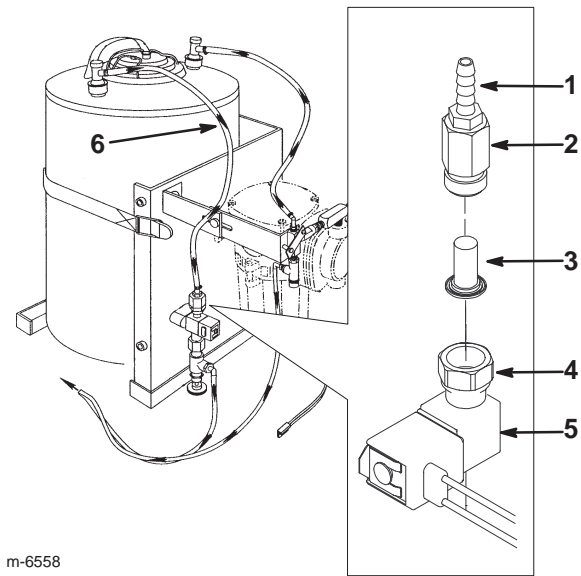

Figure 21
Important Dried foam agent and debris can clog the strainer (Fig. 21), causing slow or no foam production. This can be mistaken for a bad foam pump or incorrect foam mix. If experiencing slow or no foam production, remove and clean the strainer.
6. Assemble strainer and nozzle body/hose barb as shown in Figure 21 and install into nozzle adapter/solenoid assembly.